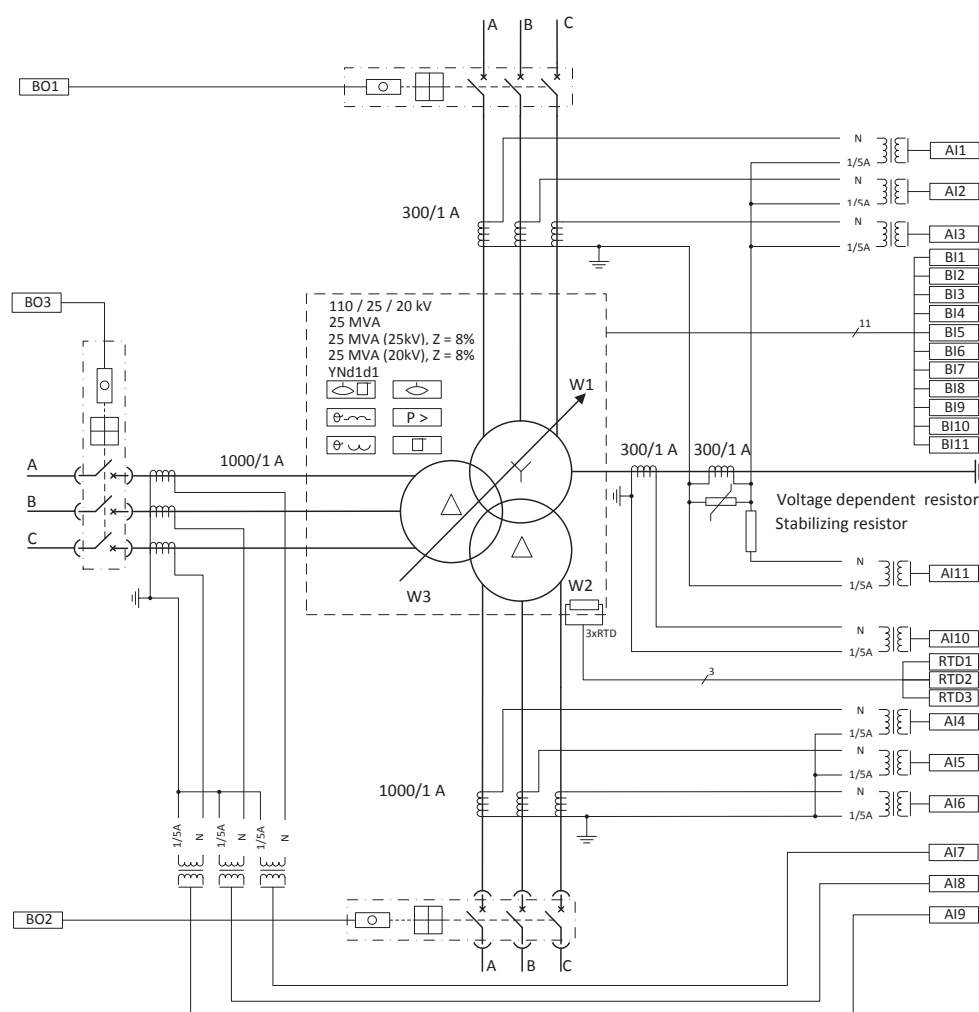

Figure 16: Relay interfaces and CT connections for the three-winding transformer of the example case
Figure 16 shows the connection details of the relay's analog inputs (AI), binary inputs (BI) and binary outputs (BO). In this example, the power transformer has an on-load tap changer on the HV (winding 1) side. The CT connections according to Type 2 (see TRxPTDF in the technical manual) required for comprehensive transformer protection for the example case are also shown.